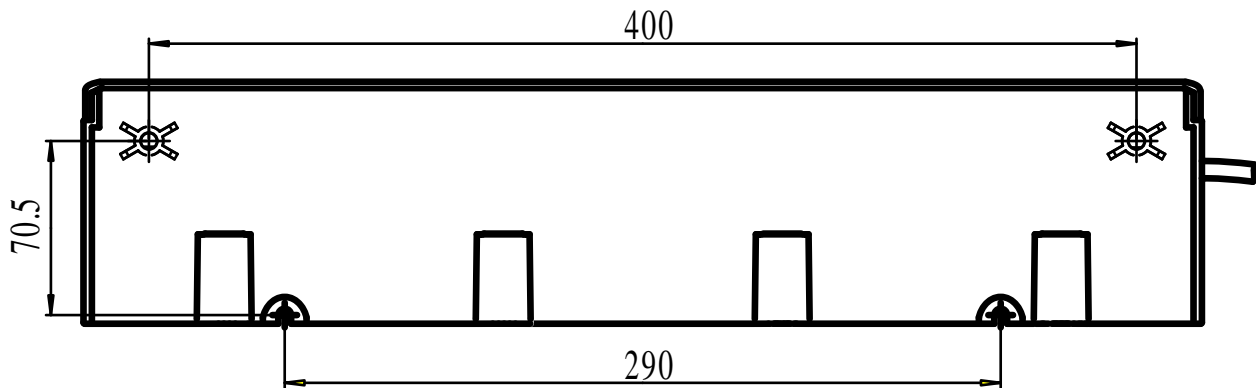

Figure 2: Mounting dimensions in mm - Charging Rack seen from back
- 3) Measure and mark the drill holes by using the dimensions in Figure 2.